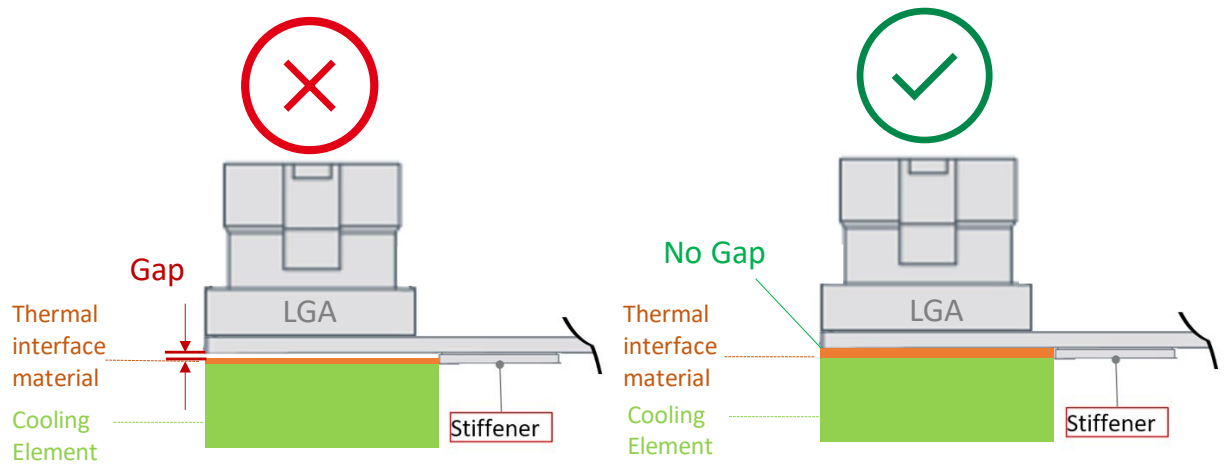

Figure 18: Recommendation to integrate BMV080 to the heat sink without gap
- While connecting heat sink to lower surface of flex PCB, ensure no gap between heat sink and LGA as shown in Figure 18